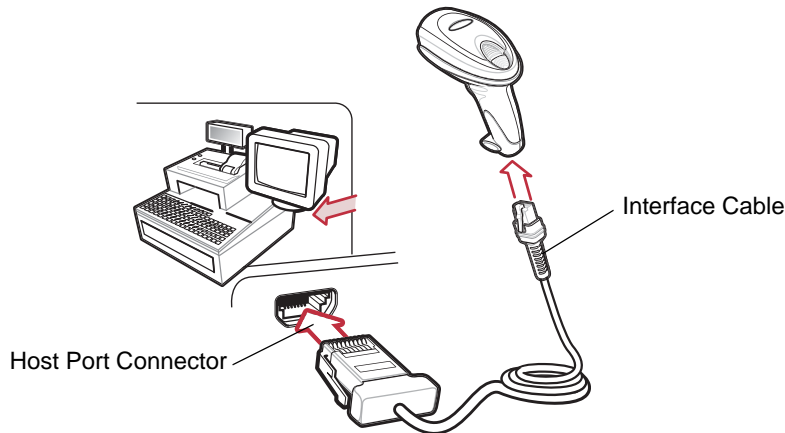

Figure 8-1 IBM Direct Connection
- ✓ **NOTE** Interface cables vary depending on configuration. The connectors illustrated in Figure 8-1 are examples only. The connectors may be different than those illustrated, but the steps to connect the scanner are the same.